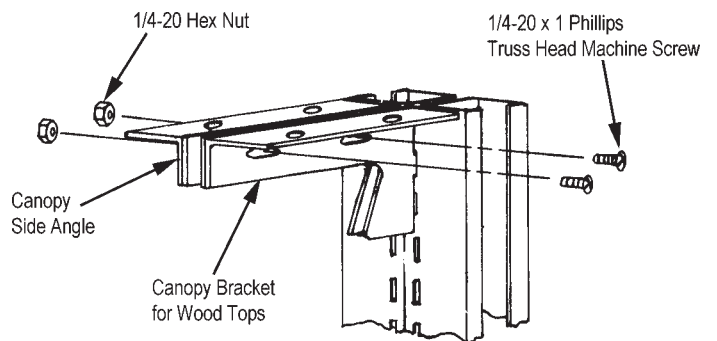

FIGURE 38
3. If units are side-by-side, bolt through both brackets using 1/4-20 x 1 Phillips truss head machine screws and 1/4-20 hex nuts. See Figure 38.